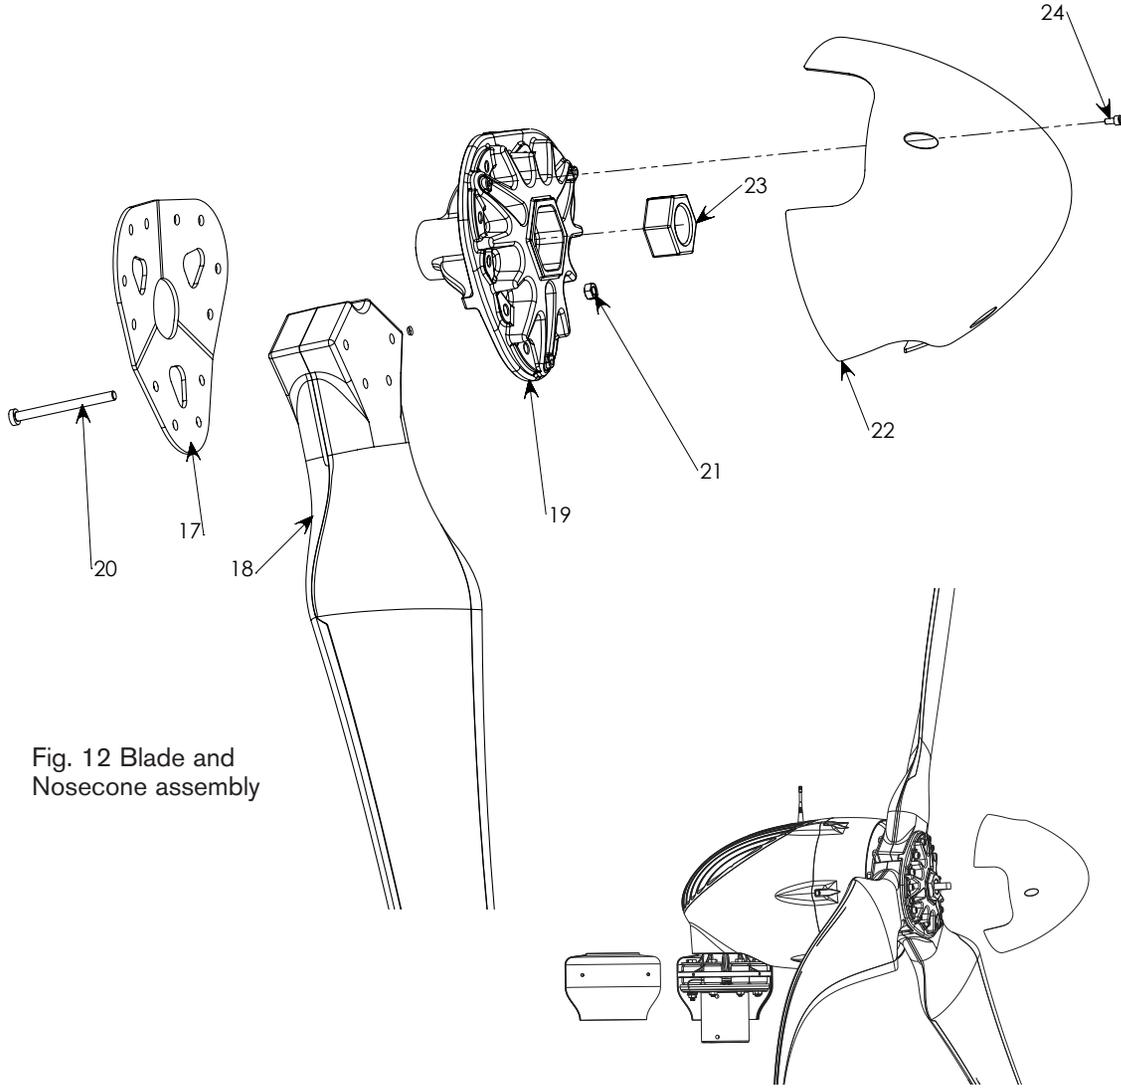

Fig. 12 Blade and Nosecone assembly
- Install the bolts by passing the bolt through the BLADE PLATE and AWAY from the NACELLE as shown in **Fig. 12**.